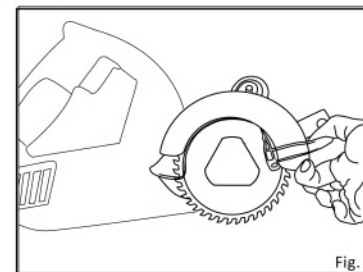

Fig. 6
4. Open lower guard of the blade. (Fig. 6)